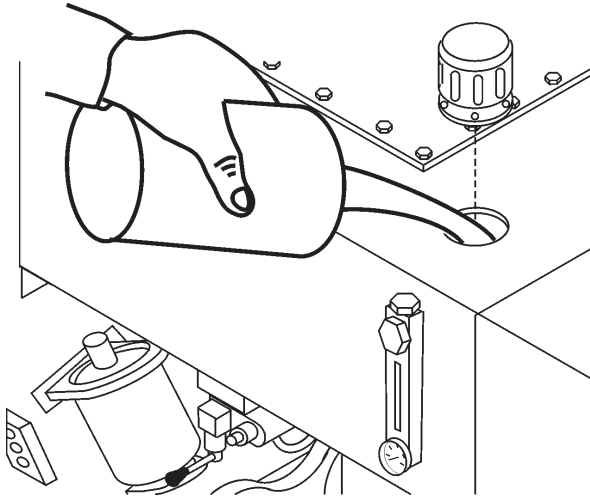

Figure 15. Hydraulic Oil Filler Hole
- If the hydraulic oil level is low, remove the cap just above the oil level sight glass (Figure 15) and add the correct amount of hydraulic oil to bring the hydraulic oil level to a normal safe operating level. (Use Shell oil Tellus 68 or Mobil oil DFE26).